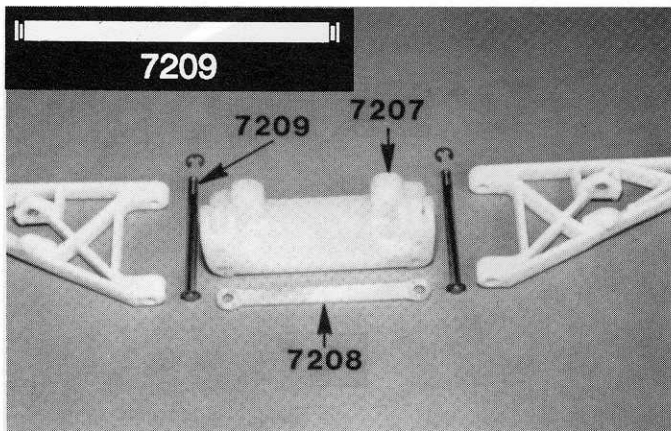

**Fig. 8**
□ **Figs. 8 & 9** Again from Bag 7-1, try one of the #6227 outer hinge pins in the outer end of the #7206 left hand front A-arm. Your front and rear a-arms may be in a separate, un-numbered bag. (The left hand and right hand sides of the truck are determined like this: with the driver sitting in the driver's seat, on the driver's left hand is the left hand side of the truck and on his right hand is the right hand side of the truck.)